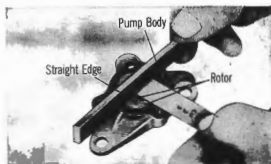

Fig. 11
- Measuring the end clearance of the rotor. Place a straight edge across the pump housing and check the clearance of the rotor with a thickness gauge (Fig. 11).